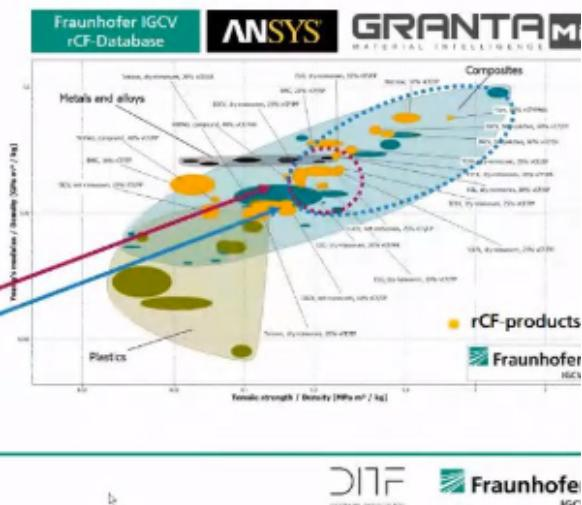

Fig 7. Ansys-GRANTA Ashby Map showing the mechanical properties of recycled carbon fibre materials relative to other materials; research by Fraunhofer IGCV.
- o Make them out of recyclable composites (thermoplastics), or with a more easily degraded (biodegradable?) matrix. Some companies are developing recyclable epoxies with “cleavable” crosslinks i.e. crosslinks can be broken in acid. There’s also quite a bit of advancement being made on aligning of recycled fibres, to improve properties (some collaboration being done on this with Ansys-GRANTA, see Fig 7 below).